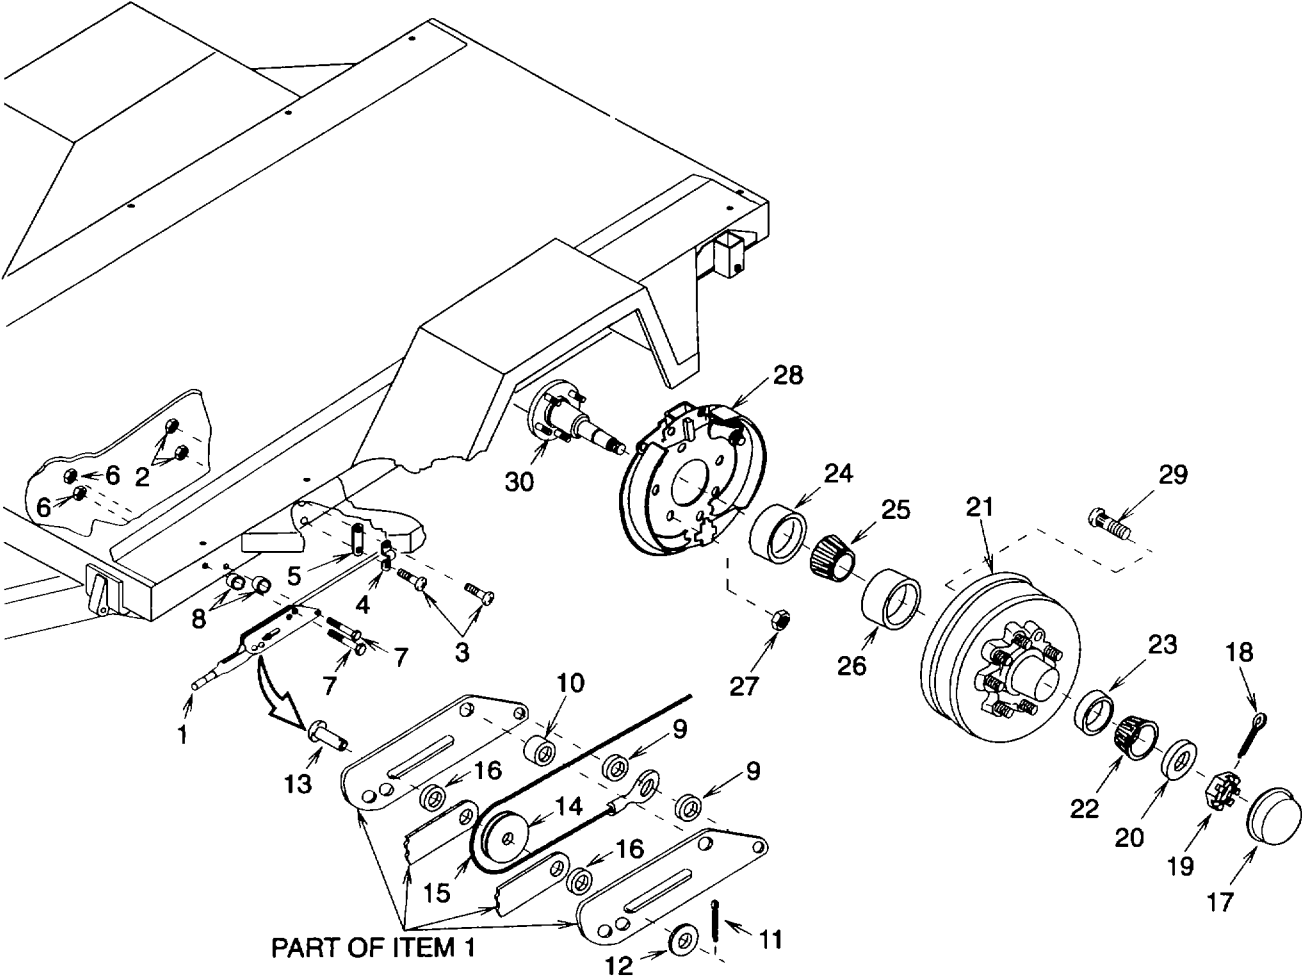

Figure 4-31. Parking Brakes
a. Removal (See figure 4-31.)
- (1) Release parking brake (1) lever (up/vertical) if set.
- (2) Remove two lock nuts (2), screws (3), one clamp (4), and link (5). Discard lock nuts.
- (3) Remove two nuts (6), screws (2), spacers (8), spacers (9), one spacer (10), and parking brake lever (1).
- (4) Remove cotter pin (11), flat washer (12), shaft (13), roller (14), cable (15), and two spacers (16). Discard cotter pin.
- (5) Remove grease cap (17).
- (6) Remove cotter pin (18) and discard.
- (7) Remove spindle nut (19) and spindle washer (20).
- (8) Remove brake drum (21), outer bearing (22), and cup (23).
- (9) Remove grease seal (24), inner bearing (25), and cup (26).
- (10) Remove five lock nuts (27) and brake (28) assembly.
b. Repair (See figure 4-31.)